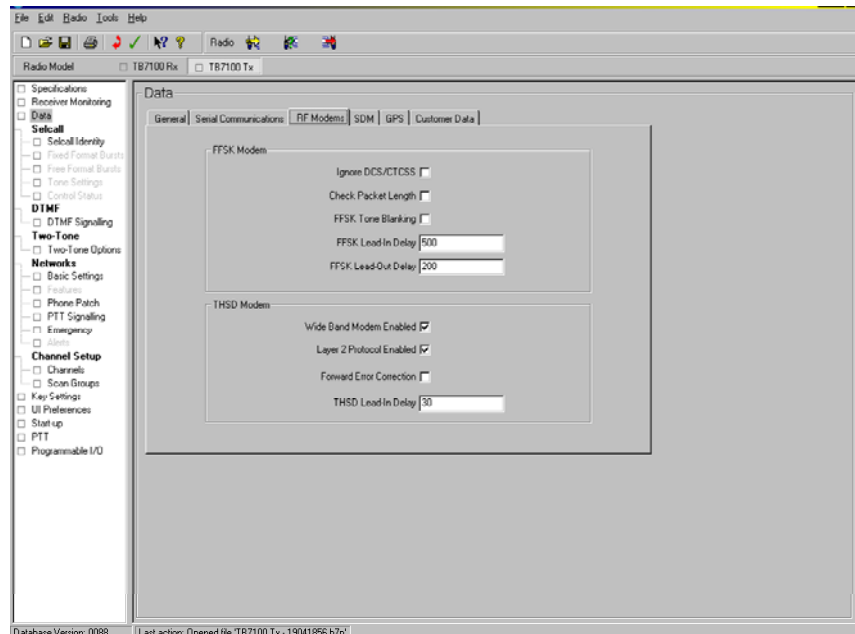

Figure 20
- **figure 20.** The FFSK modem settings do not apply and can be ignored.